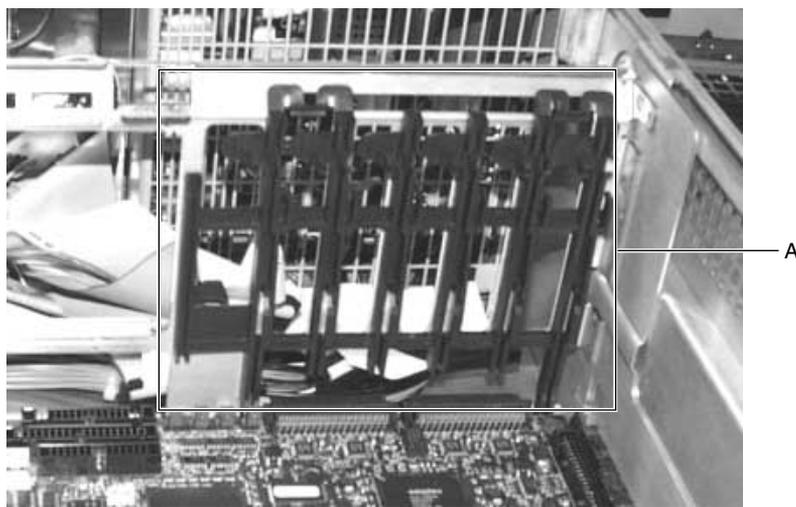

Figure 2-4 Rear Retention Mechanism
23. Using needlenose pliers, remove the plastic rear retention mechanism located at the front of the E-Bay. The rear retention mechanism is noted by "A" in Figure 2-4 on page 31.
4. Using needlenose pliers, install the plastic rear retention mechanism located at the front of the E-Bay. The rear retention mechanism is noted by “A” in Figure 2-4.